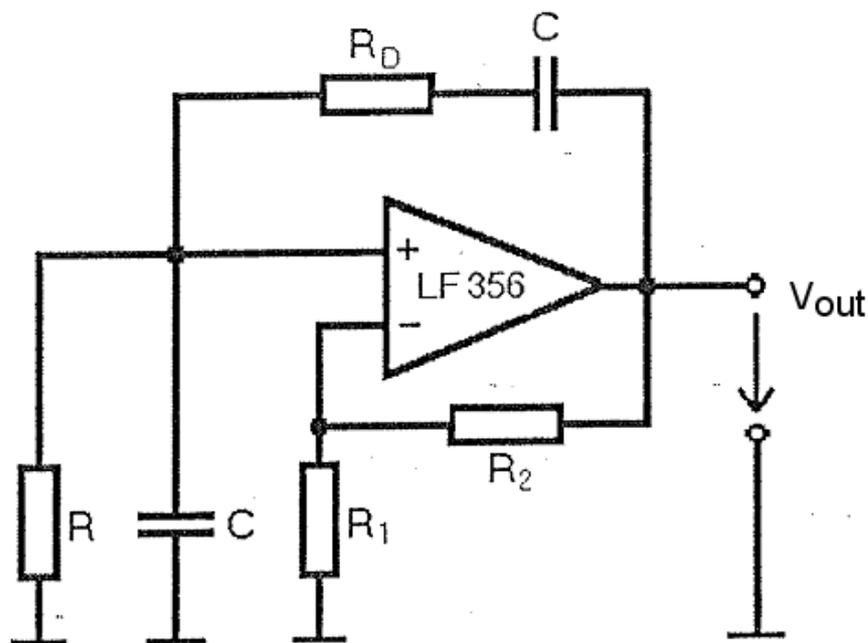

Figure 6.
The circuit in figure 6. doesn't contain amplitude limit, thus the output voltage will be approximately the  $\pm$  voltage supply (and can be distorted). There are versions with amplitude limit, but in this laboratory session we will not measure them.
a) Build the circuit of figure 6.  $R_1=10k$ ,  $R_2=20k$ ,  $R=6.8k$ .  $C=22nF$ . Short circuit  $R_D$  for now ( $R_D=0$ ). Draw the output waveform.